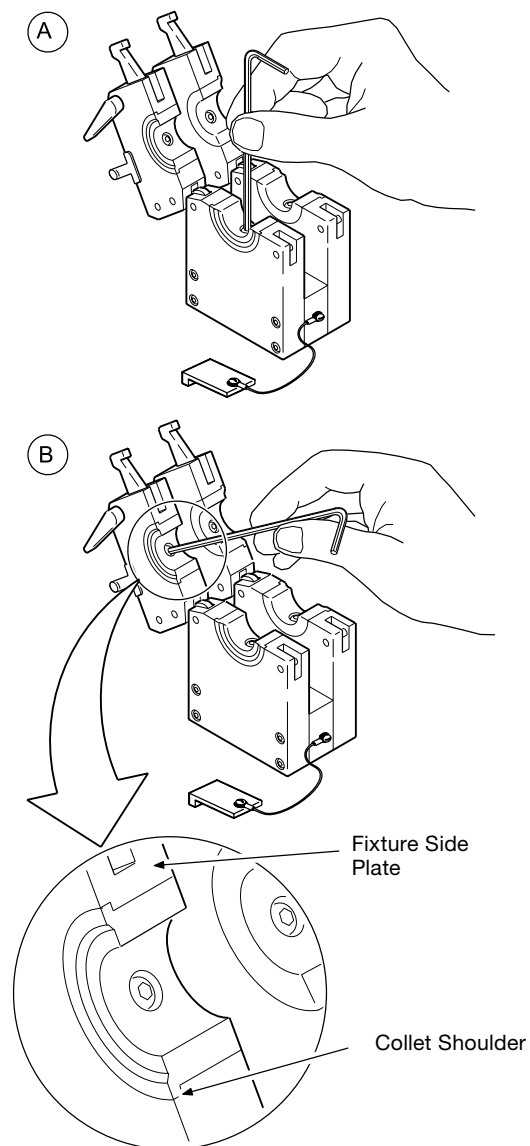

Figure 13 Installing Collets
2. Install the collet halves in both the top and bottom side plates and tighten the collet screws. Make sure the collet shoulder is flush against the fixture side plate. See Figure 13.